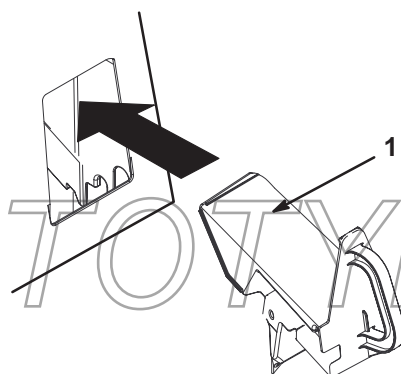

Figure 19
4. Insert the recycler plug into the opening as shown in Figure 19.